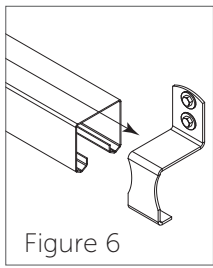

Figure 6
7. Slide the box track (A) through the bottom of the bracket. Tighten the lag screws. Install the other end bracket. Slide the other end of the box track into the end bracket so both brackets are supporting the box track (Figure 6).